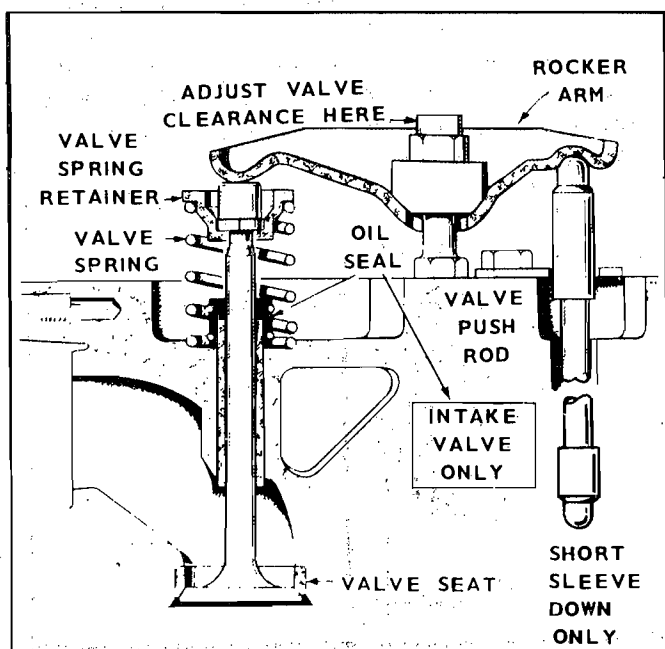

FIGURE 19. VALVE MECHANISM
3. To change the setting of valve clearance, adjust the locknut which secures the rocker arm to the cylinder head (see Figure 19). Loosen the locknut to increase clearance and tighten it to reduce clearance.